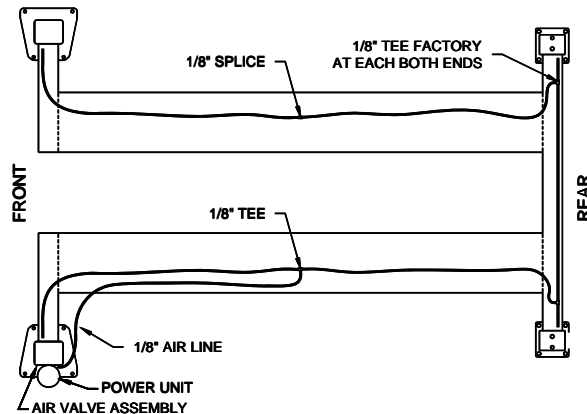

Fig 17 – Lock Release Air Line Routing
- 40) Install 1/8" air line from air valve assembly thru opening in runway to Tee. **Fig 17**